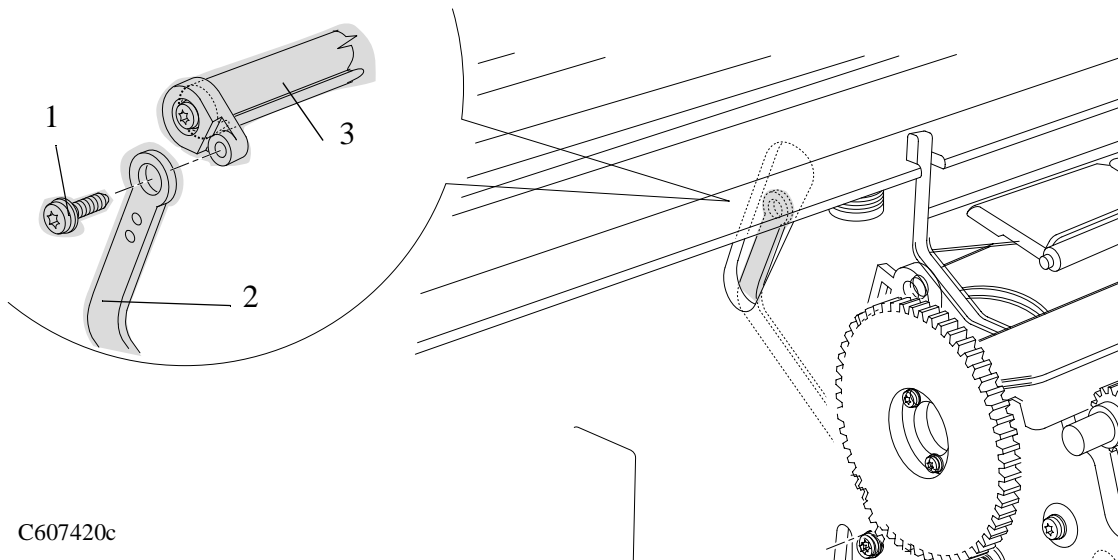
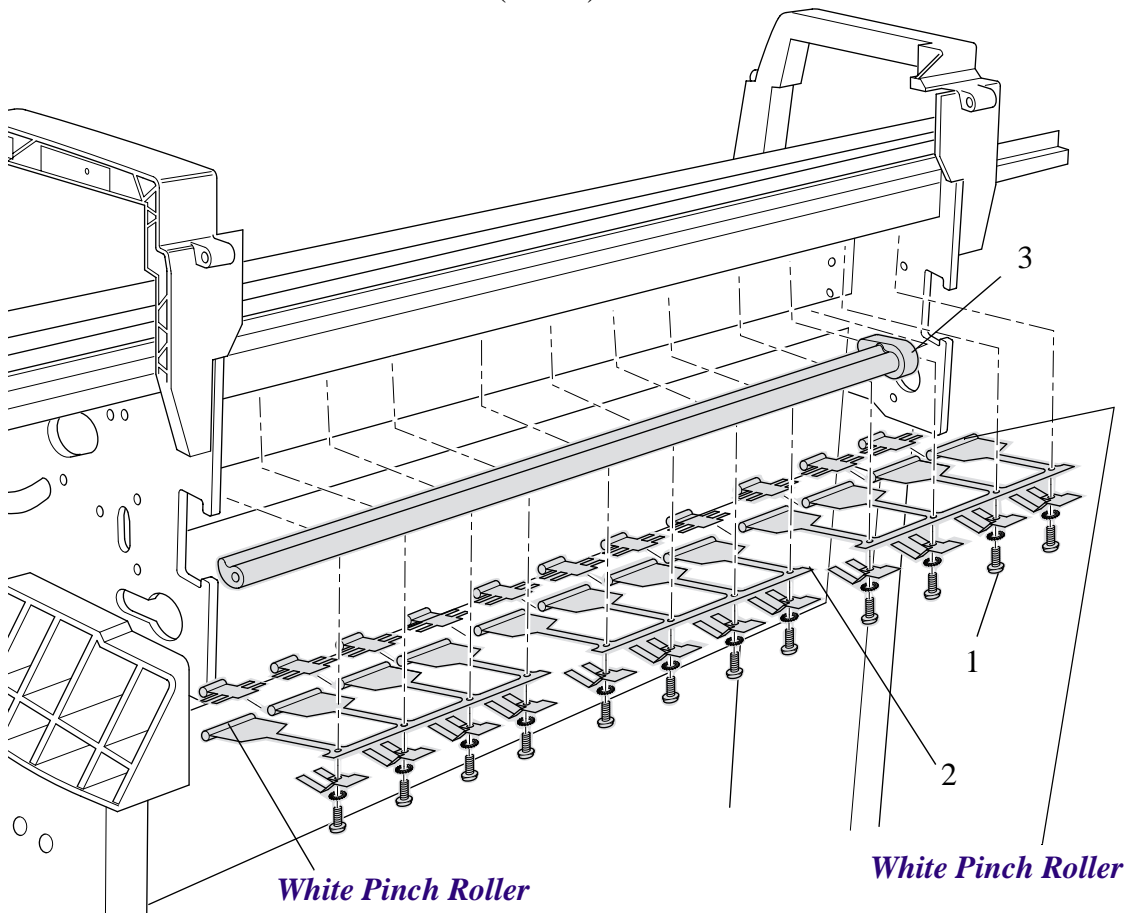

Figure 81: Pinch Wheel Cam
Figure 82: Pinch-arm Assemblies and Cam
Refer to Figure 81 and Figure 82.
2. Remove the T-10 screw (item 1) which secures the linkage rod (item 2) to the pinch-wheel cam (item 3)(refer to Figure 81).
NOTE For steps 3 and 4 refer to Figure 82.